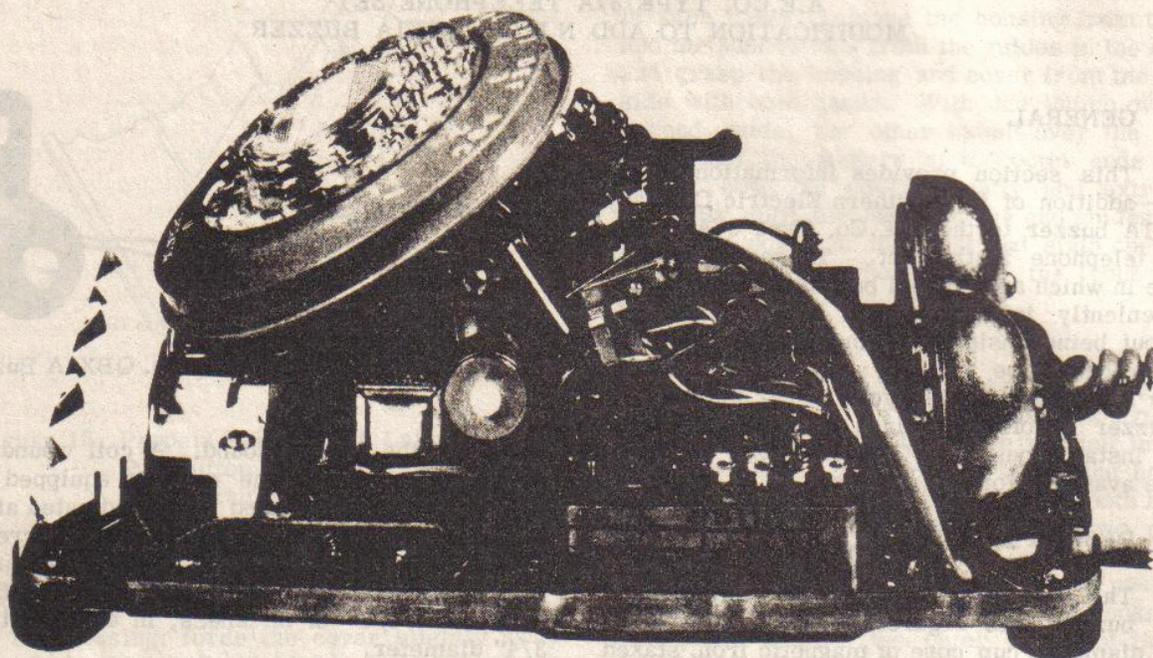

Figure 3. QBX1A Buzzer Mounted on Right Side of Tripod.
3.04 An alternate tripod location for the buzzer assembly requires a short #6 or #8 round-head machine screw and nut, which are used to mount the assembly in one of the tooling holes on the right side, as shown in Figure 3. This location will be necessary if the tapped holes below the hookswitch have already been used to mount a terminal strip, but is not ordinarily recommended.